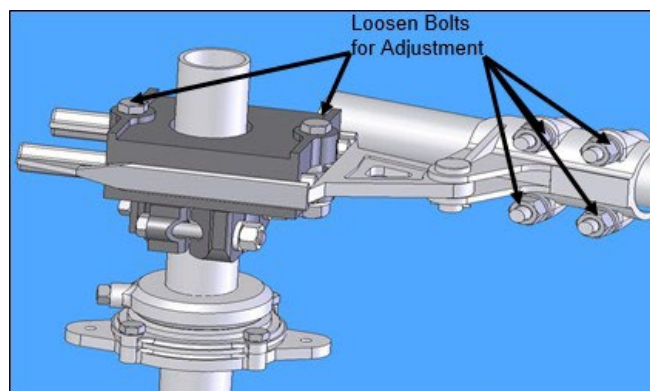

Figure 15: Adjustable Arm Assembly
- 6.5.3.5 Lengthen the adjustable radius arm approximately  $\frac{1}{4}$  inch. Allow the pipe clevis to reposition itself the same  $\frac{1}{4}$  inch. Refer to **Figure 15**.
- 6.4.4.5. Shorten the adjustable radius arm approximately  $\frac{1}{4}$ -inch. Allow the pipe clevis to reposition itself the same  $\frac{1}{4}$  inch. Refer to **Figure 15**.